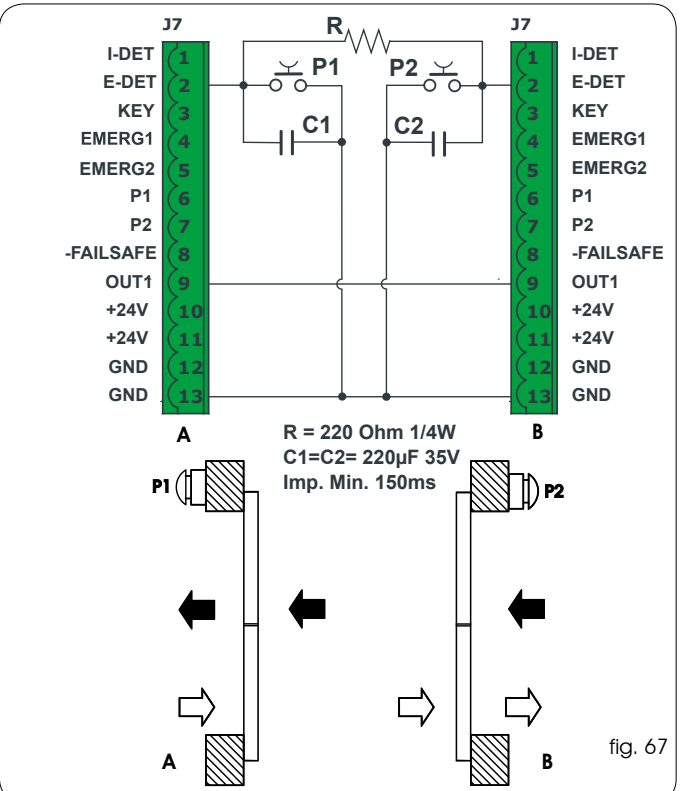

fig. 67
- Make the connections between the J6 terminal boards of the two control boards, of the push-buttons and additional electronic components as shown in figure 67.